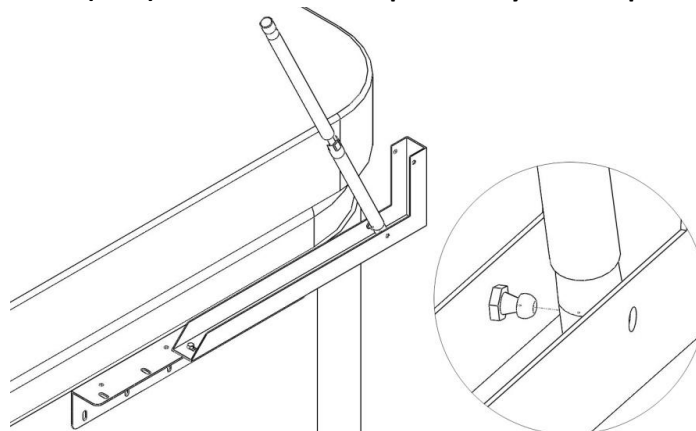

Figure 8
8. Attach the bottom end of the Locking Gas Shock (cvLS) to the Ball Stud (cvB) on the Channel Bracket (cvBB), by snapping the mouth of the shock onto the spherical part of the Ball Stud (cvB) as shown in Fig 8. **Attach the Locking Gas Shock (cvLS) to the side of the spa where you will operate the lift.**